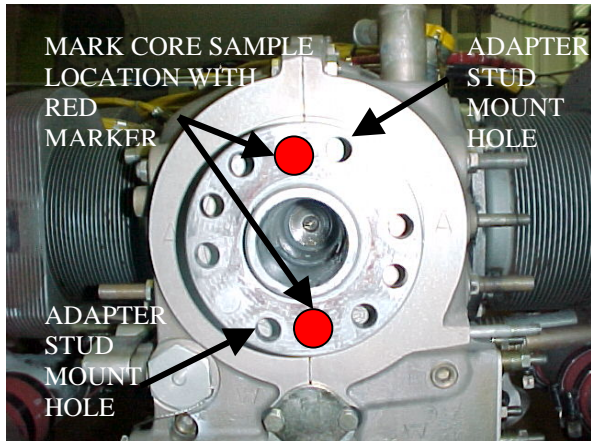

FIGURE 2
4. On the propeller flange, identify, and using a red magic marker, mark the location from which the core samples will be taken. See Figure 2.
5. Locate the two crankshaft flange holes that will be used to mount the adapter and boring tool. See Figure 2.